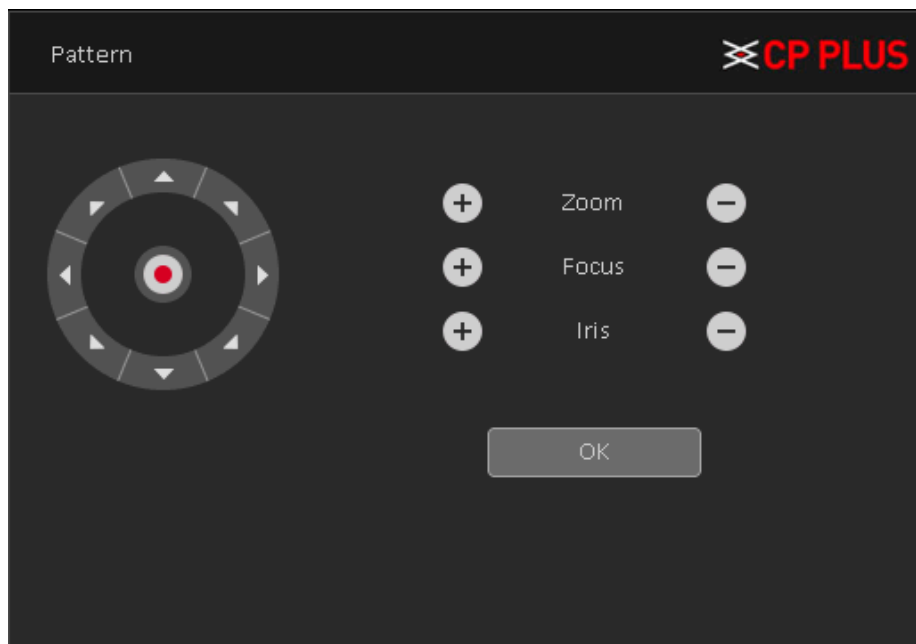

Figure 3.21
- Click on button to save followed path as pattern. See Figure 3.21